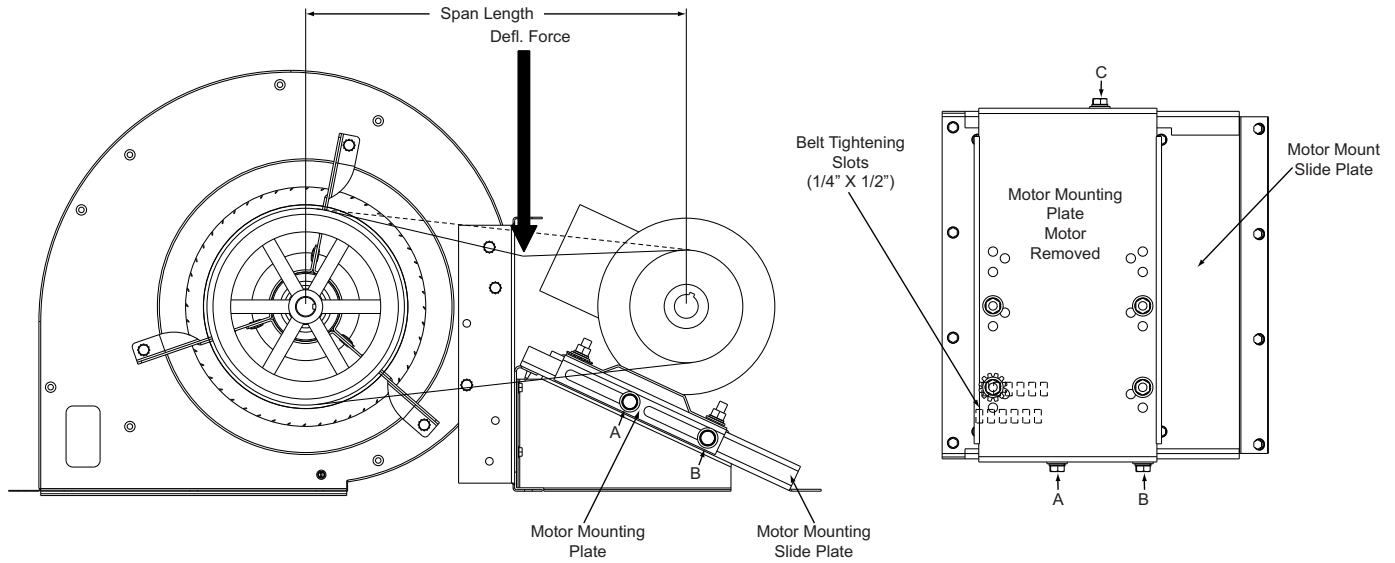

Figure 18: Belt Adjustment
The tension on the belt should be adjusted as shown in Figure 18.
2. Adjust tension by placing a flat heat screwdriver into the belt tightening slots (1/4" X 1/2") in the motor mount slide plate and applying pressure against the motor mounting plate. See Figure 18.